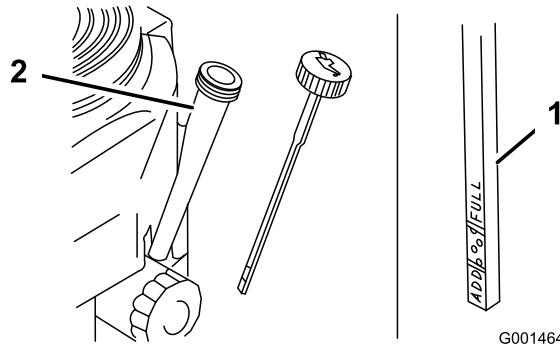

Figure 21
4. Clean around the oil dipstick (Figure 21) so that dirt cannot fall into the filler hole and damage the engine.
5. Unscrew the oil dipstick and wipe the end clean (Figure 21).
6. Slide the oil dipstick fully into the filler tube, but do not thread onto tube (Figure 21).
- Slowly pour approximately 80% of the specified oil into the filler tube (Figure 21).